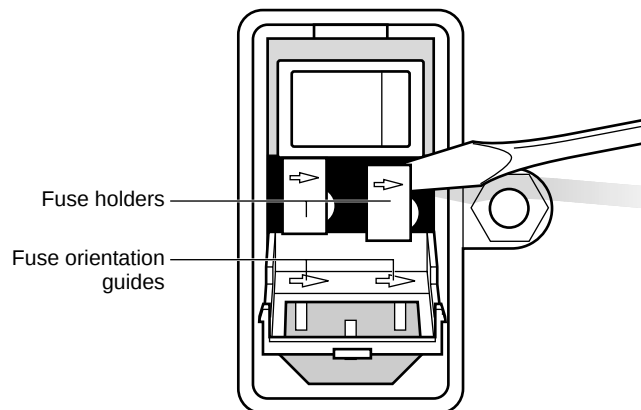

Figure 6-2: Removing the Fuse Holder
4. Use the screwdriver tip to remove the fuse holder by pulling straight out from the N-3200 as illustrated in Figure 6-2.